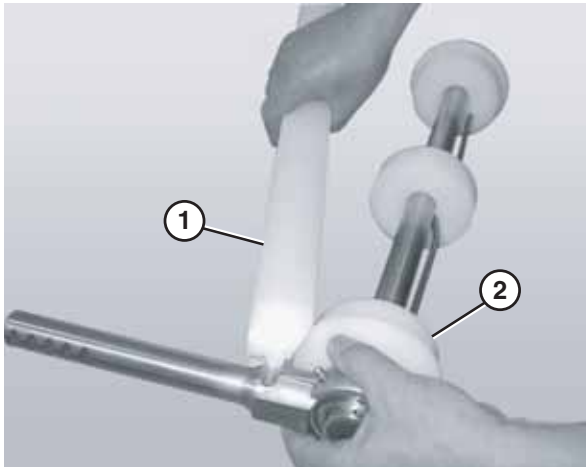

Figure 78
- Remove the guard bar (Figure 78, item 1).
7. Remove the pucks (**Figure 78, item 2**).